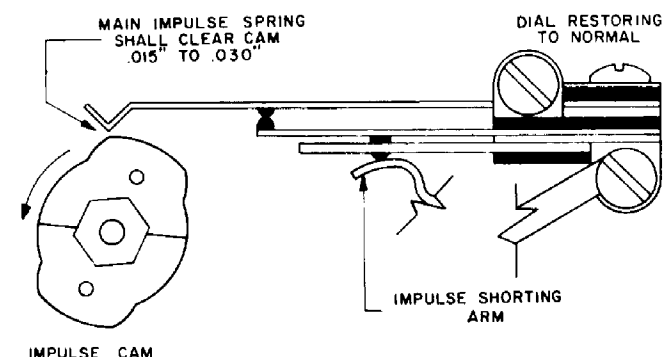

Figure 18. Impulse Shorting Arm Adjustment.
- (a) The highest point of the middle impulse spring buffer must engage the contacting portion of the arm (Figures 18 and 19).
- (b) With the dial restoring to normal, the tip of the main impulse spring must clear the impulse cam by a minimum of 0.015 inch, a maximum of 0.030 inch. The impulse shorting arm must not cause the middle impulse spring to move until after completion of the last pulse (Figure 18).